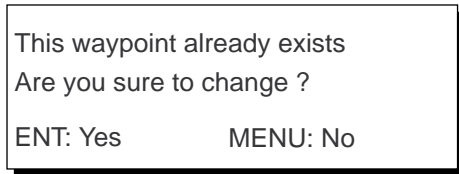

Figure 4-16
- 6) Press the **NU/CU ENT** key. The message shown in Figure 4-16 appears.